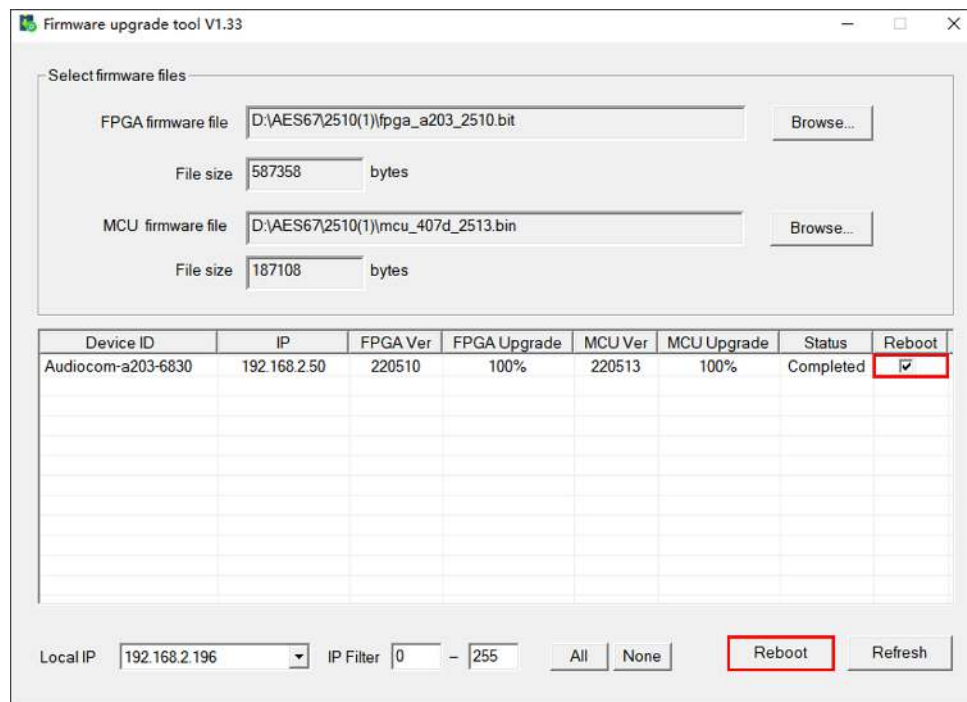

Figure 27 : Reboot device
Step 6: After completing both the FPGA and MCU firmware version upgrades, select the checkbox under the 'Reboot' column and click on the **Reboot** button (as shown in **Figure 27**). Then, switch off and restart the AE-6703 device.